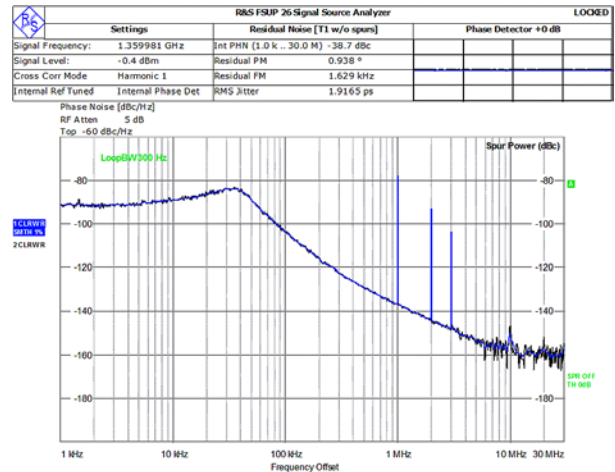

Figure 19. Signal Source Analyzer Display
7. Measure the output spectrum. Figure 19 shows a phase noise plot at 1360 MHz output frequency.